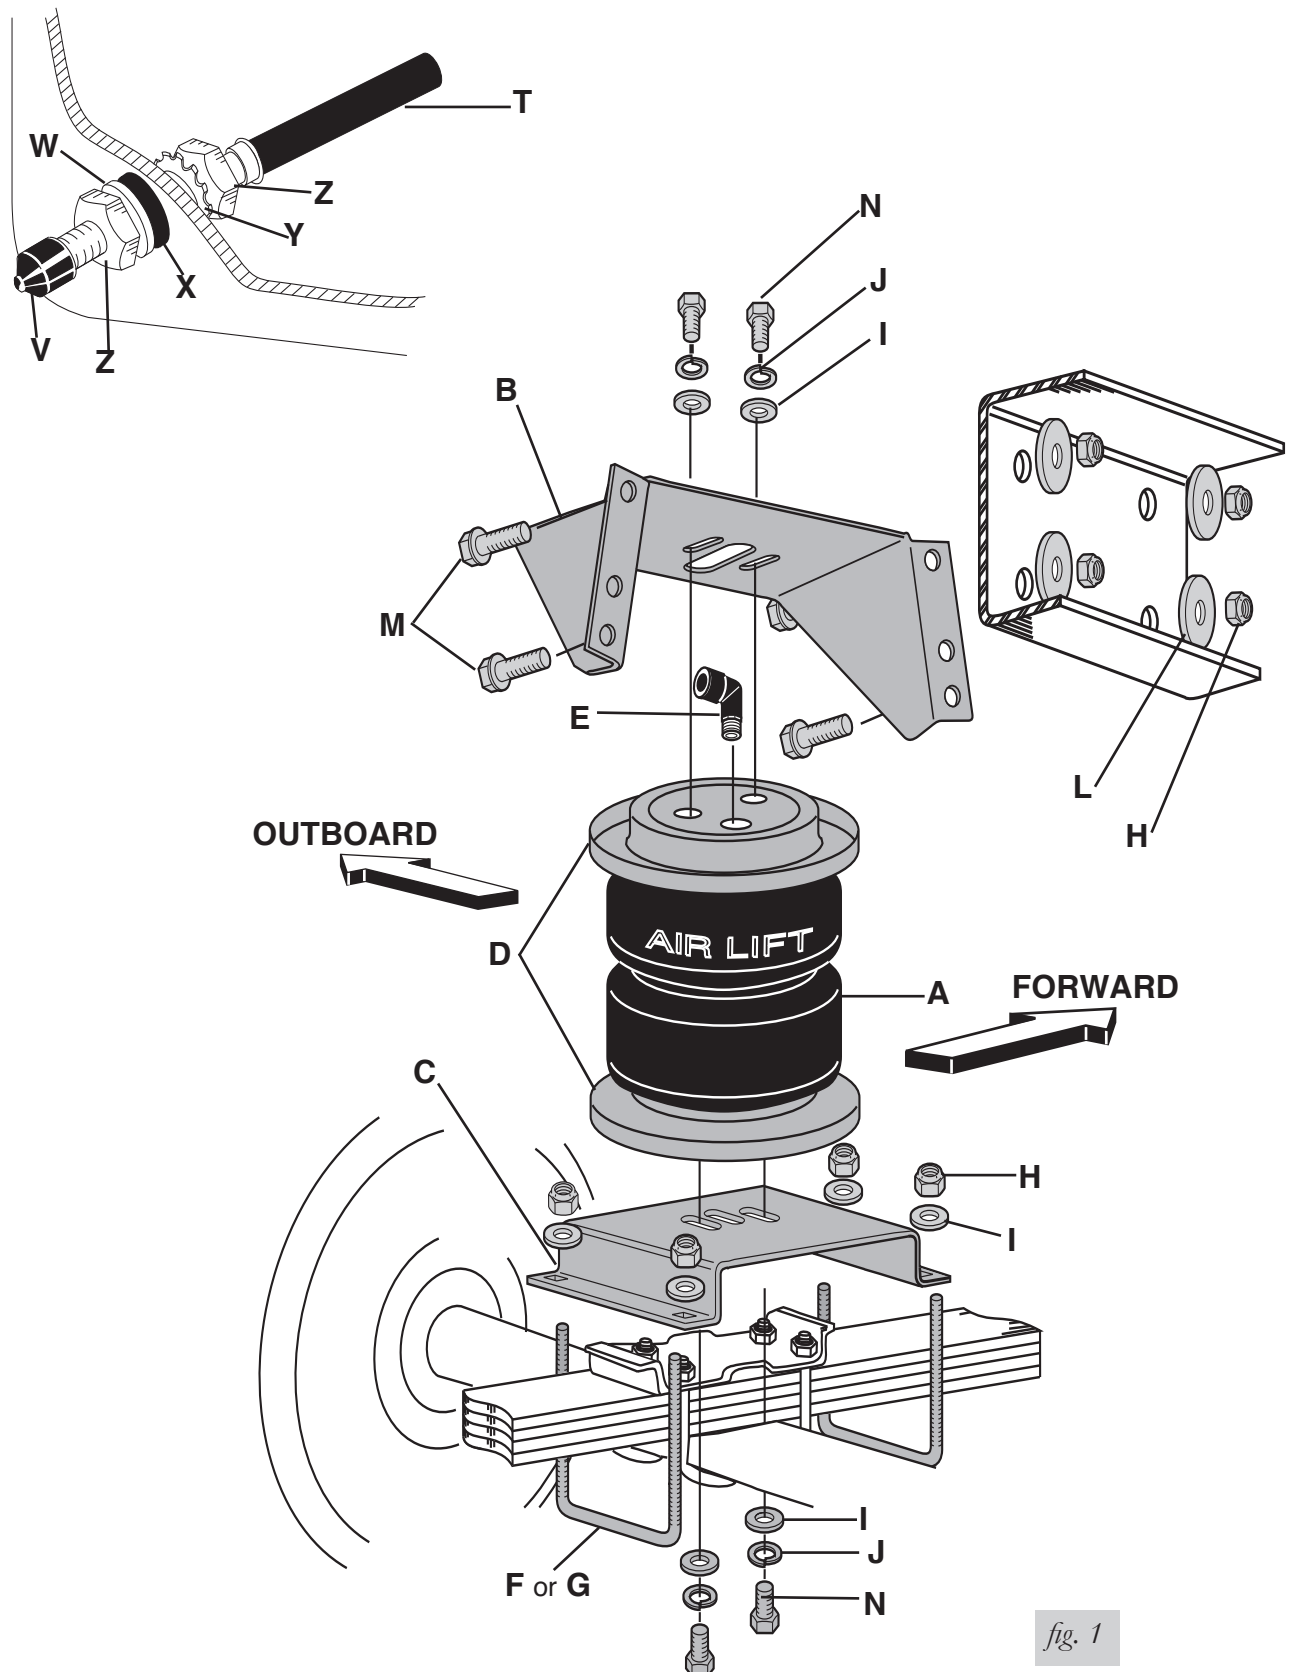

fig. 1
1. If the spacer is not used, attach the lower bracket securely using the provided U-bolts, flat washers, and lock nuts. Torque nuts to 16 ft/lbs. See figures 1 and 9.